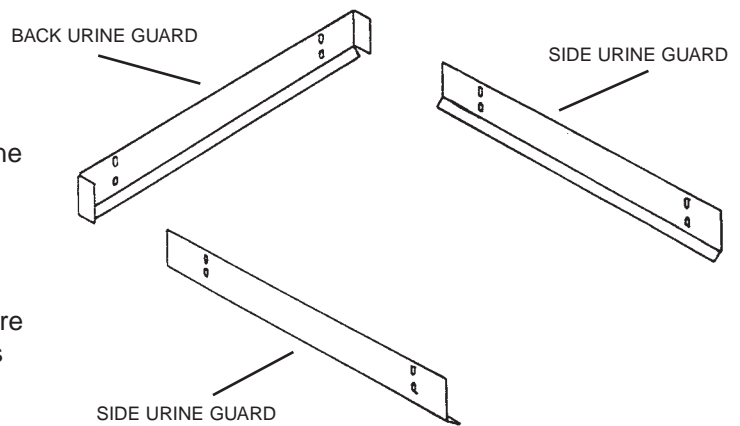

Figure 1
Each Urine Guard Kit Contains (see Fig. 1)
Step 3: Install Side Urine Guards. Side Urine Guards are the two that are identical (see fig. 1). Bend tabs back over wire.